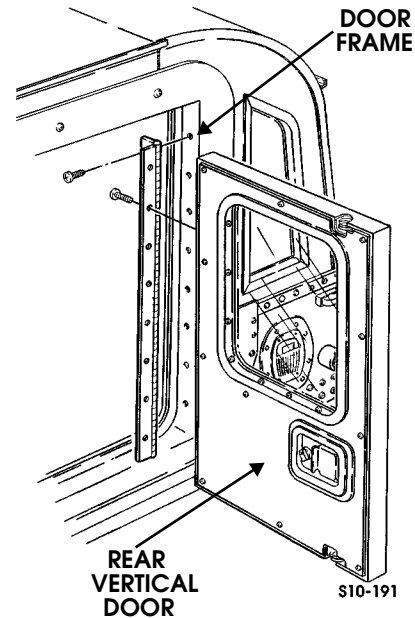

Figure 10-153: Rear Vertical Door Replacement
1. Remove eight screws and rear vertical door from hinge (Figure 10-153).
1. Secure hinge to door frame with eight screws (Figure 10-153).